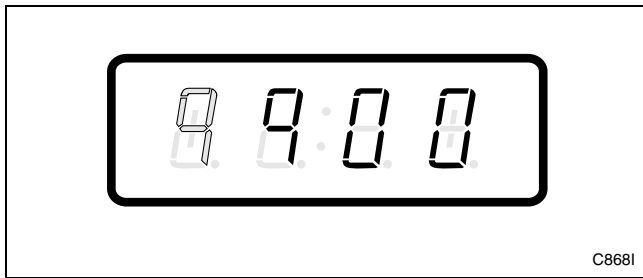

Figure 195
6. Press the START (enter) keypad to enter the fifth digit and display remaining four digits. The active digit will flash one second on and one second off. Refer to *Figure 195*.